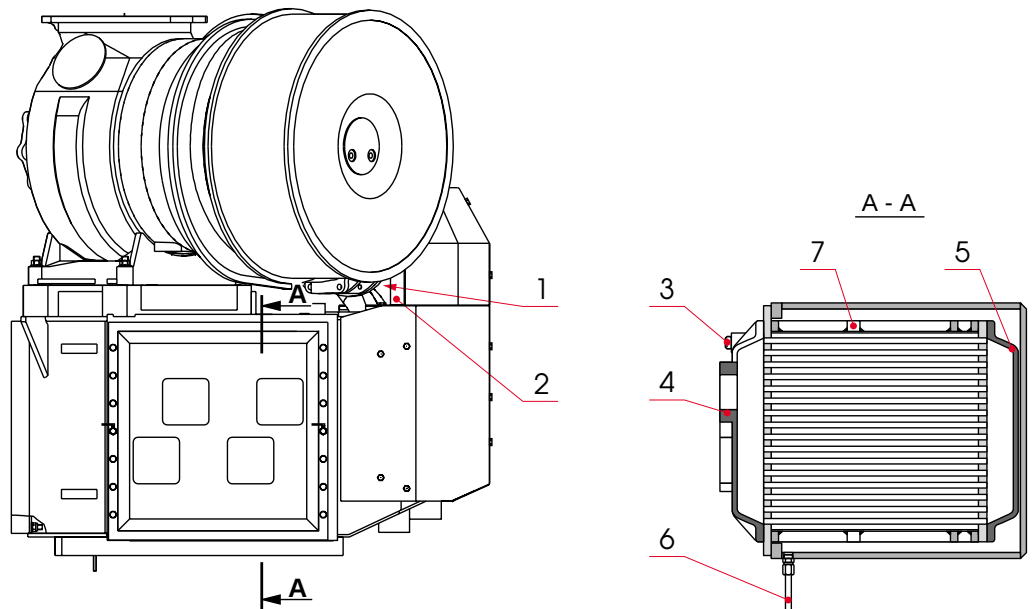

Fig 15-1
1 **Condensate from the air is drained** through a small hole/pipe (6), Fig 15-1, at the bottom of the cooler housing, after the insert, and at the opposite end plate of the air manifold. Examine regularly that the pipe is open by checking the air flow when running.
2 **At longer stops,** the cooler should be either completely filled or completely empty, as a half-filled cooler increases the risk of corrosion. If there is a risk of that the water level in the system goes down when the engine is stopped, drain the cooler completely. Open the air vent screw (3), Fig 15-1, to avoid vacuum when draining.